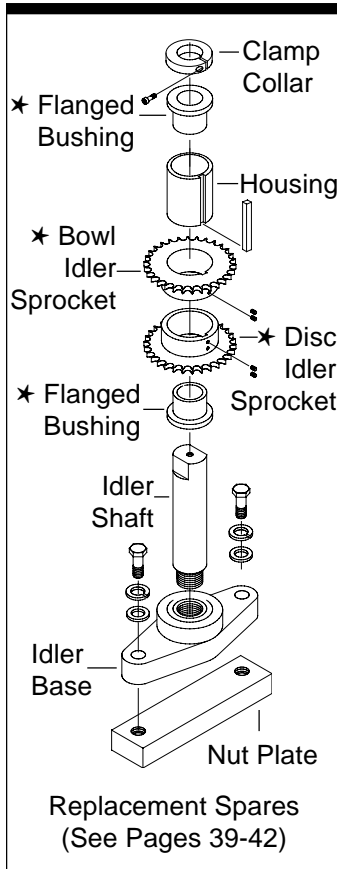

Figure 5-4. Idler Assembly (single drive units only)
Step 5—Install Parts On New Speed Reducer. Remove the friction clutch assembly and other parts from the shaft of the old reducer and install them on the new reducer. Be sure the motor sprocket spacer (see Figure 5-4) is properly installed or the chains may be misaligned.
Step 6—Install New Speed Reducer. Attach the speed reducer to the motor mounting brackets (see Figure 5-4). Assemble the key to the motor shaft and coat the shaft with anti-seize compound.